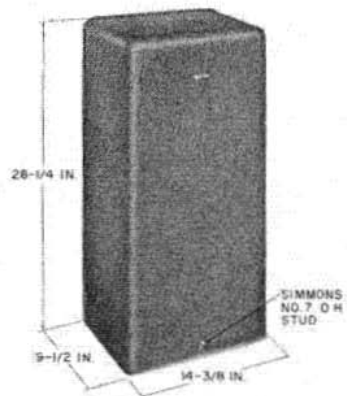

Fig. 39—Cover per ED-69462-50, Group 2
8.06 The cover per ED-69462-50, Group 2 (Fig. 39) is a fiberglass cover designed for use with ED-69462-01, Group 1 floor stand.